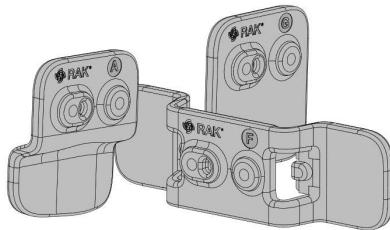
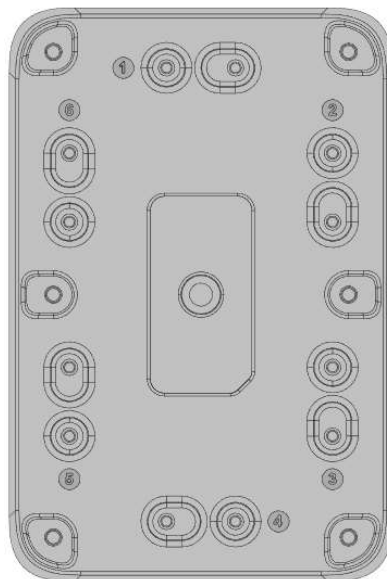

Figure 12: Mount accessories marked with letters
Figure 13: WisBlock Unify Enclosure marked with numerals
After full assembly of the enclosure, the next step is to choose the right mounting accessory for your application. Each mount accessory has a mark indicated by a capital letter, as shown in **Figure 12**, and each WisBlock Unify Enclosure has several fixed positions, which are indicated by a mark of numerals, as shown in **Figure 13**. The medium-sized WisBlock Unify Enclosure has only six (6) fixed positions.